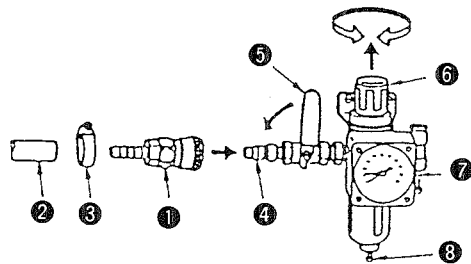
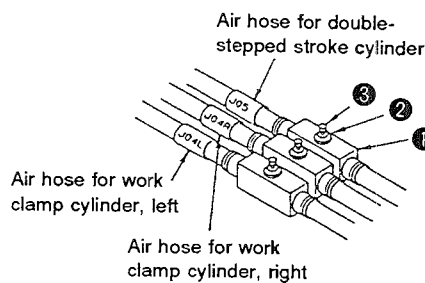
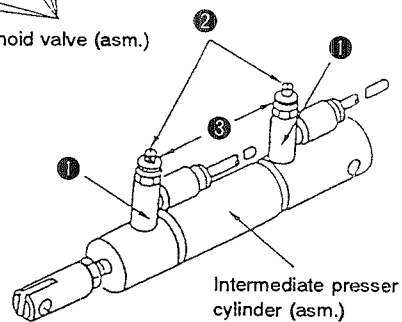

Fig. 4-8-1
Fig. 4-8-3
Fig. 4-8-4
- 1) Connect quick-coupling joint ① in place and open air cock ⑤. The pressure gauge ⑦ indicates 5 to 5.5 kgf/cm² (0.5 MPa to 0.55 MPa). (Fig. 4-8-1)
- 2) If pressure gauge ⑦ indicates 4 kgf/cm² (0.4 MPa) or lower value, the machine will stop with Error **A** shown on the operation panel. (Fig. 4-8-1)
- 5) The needle knob of the speed controller (for feeding frame) cylinder has been fixed at the position that is reached by loosening the knob by one turn after fully tightening it. (Fig. 4-8-3)
- 6) The needle knob of the speed controller (B) (for the intermediate presser cylinder) is fixed using a nut with loosened by 5 turns after it has been fully tightened. (Fig. 4-8-4)
<p>1) Open air cock ⑤. Pull up air adjusting knob ⑥, then turn it until pressure gauge ⑦ indicates 5 to 5.5 kgf/cm² (0.5 MPa to 0.55 MPa). Then push down the knob to fix it at that position. (Fig. 4-8-1)</p> <p>2) Set the machine in its sewing state. Now remove the air hose by pressing section ② of pressure reducing valve ① which is fixed on the solenoid valve (asm.), and connect a commercially available pressure gauge instead of the removed air hose. (Fig. 4-8-2)</p> <p>Depress the feeding frame switch 5 times or more, and turn needle knob ② of pressure reducing valve ① until the connected pressure gauge indicates 1 to 1.5 kgf/cm² (0.1 MPa to 0.15 MPa). Then fix the needle knob using nut ③, and remove the pressure gauge. Now, securely connect the removed air hose in place. (Fig. 4-8-2)</p> <p>3) Following the procedure same as described in step 3), depress the intermediate stop switch 5 times or more, and adjust so that the connected pressure gauge indicates 1 to 1.5 kgf/cm² (0.1 MPa to 0.15 MPa).</p> <p>4) Referring to the Standard adjustment (8)-5), properly adjust needle knob ② of speed controller ① and fix the knob with nut ③. (Fig. 4-8-3)</p> <p>5) Remove the top cover.</p> <p>Referring to the Standard adjustment (8)-6), properly adjust needle knob ② of speed controller ① and fix the knob with nut ③. (Fig. 4-8-4)</p>	<p>1) Function failure of the feeding frame components and intermediate presser components may result. The machine stops with Error A indicated on the operation panel.</p> <p>2) An adequate work pressing pressure is not provided.</p> <p>3) The feeding frame may fail to go up until its highest position is reached.</p> <p>4) The speed of vertical motion of the feeding frame may be too high or too low.</p> <p>5) The intermediate presser may fail to move smoothly, or it may generate a keen metallic noise when it is in operation.</p> <p>[Caution] Normally, Standard adjustments (8)-2) through -6) are not required to be adjusted. Needle knobs and nuts referred in steps 3) through 6), in particular, have applied with oil-resistant white coating material to show that they have been already adjusted properly.</p> <p>* To set the air pressure to 0 kgf/cm², close air cock ⑤ and press button ⑧. (Fig. 4-8-1)</p>